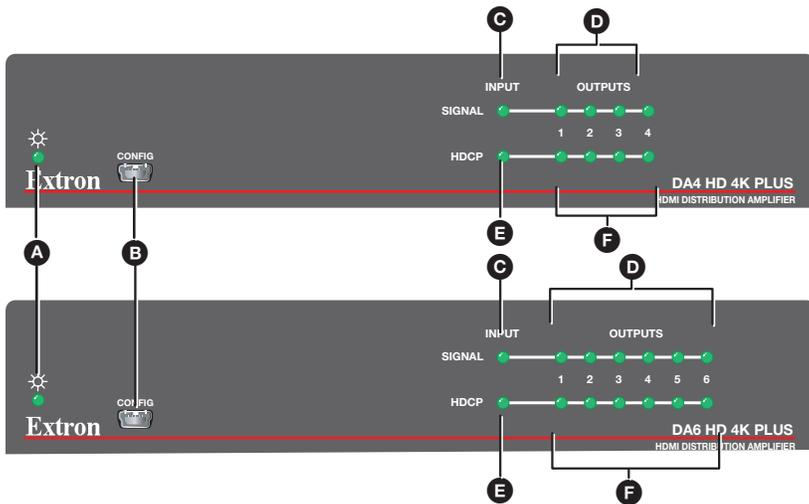
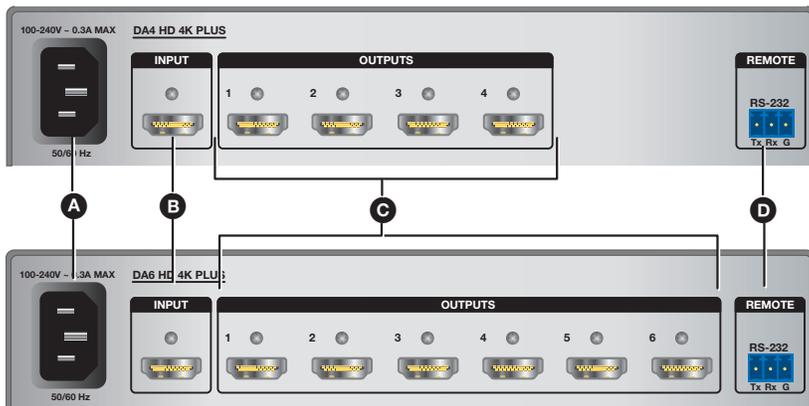

Figure 1. DA HD 4K PLUS Front Panels
Figure 2. DA HD 4K PLUS Rear Panel Connections
2. If required, connect a control PC to the USB Config port (see figure 1, B on the previous page) or Remote RS-232 port (see figure 2, D on the previous page). To connect the rear panel Remote RS-232 port to a PC, ensure that the PC transmit connects to the RS-232 receive and the PC receive connects to the RS-232 transmit (see the diagram below).